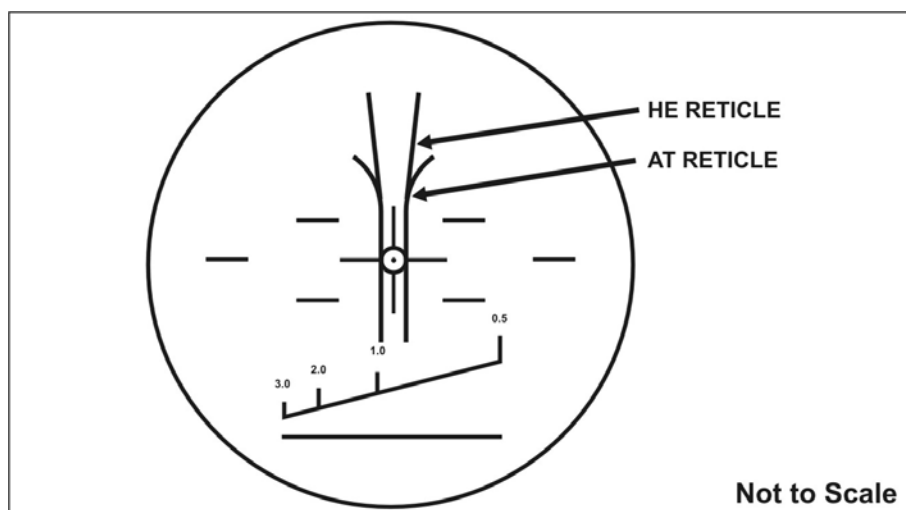

Figure 6-53. Bradley A3 air-defense reticle.
f. When using the 25-mm, the Bradley A3 crew can select ADR using the CTD. In normal mode, the gunner should keep the IBAS reticle on the center mass of the target. Kinematic lead still applies for aerial engagements (Figure 6-53).